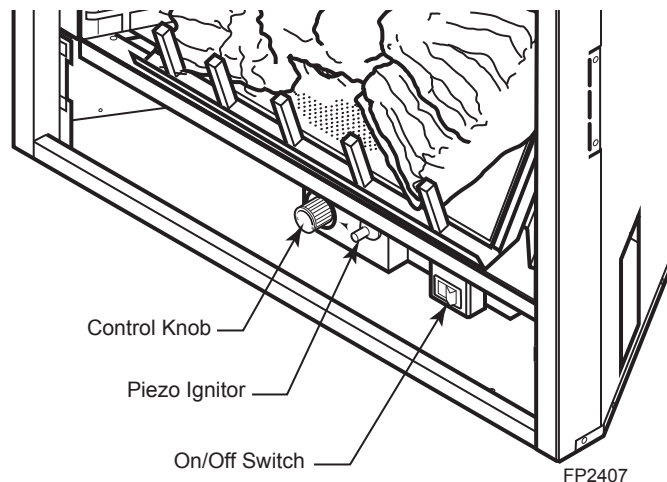

**Figure 28 -
4. Refer to *Page 22, Figure 28* for the location of the piezo ignitor and control knob. Turn control knob clockwise ↻ to the OFF position.